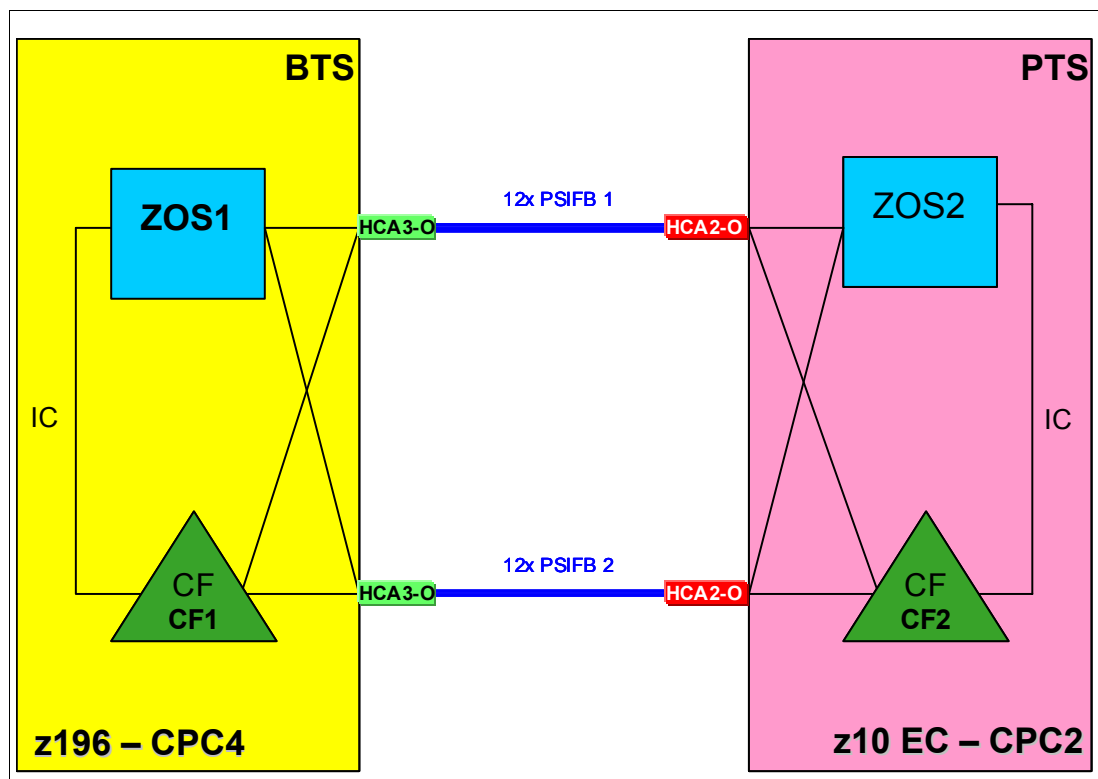

Figure 4-2 Scenario 1: Final configuration
30. After all steps are completed, the final configuration is as shown in Figure 4-2.